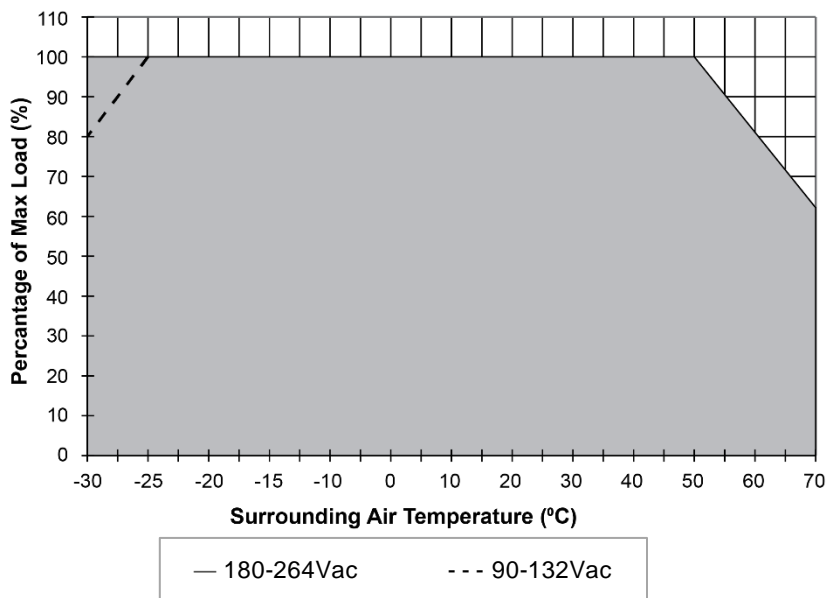
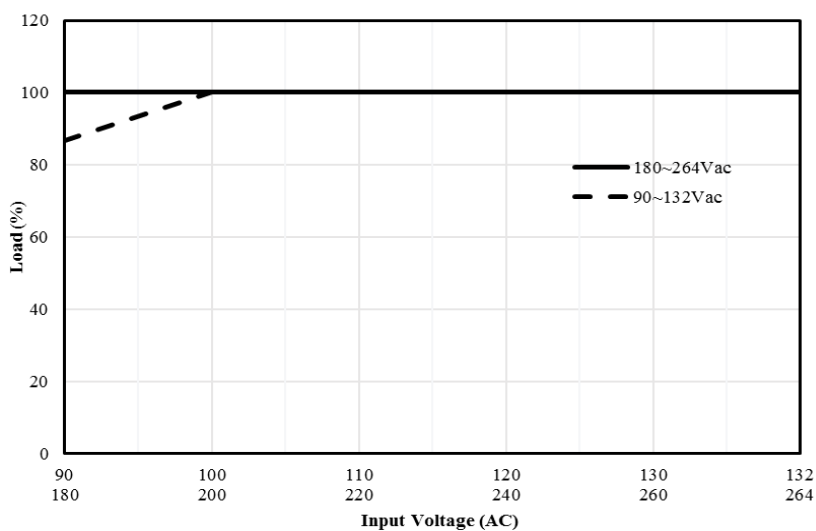

Fig. 1 De-rating for Horizontal Mounting Orientation
Fig. 2 De-rating for AC Input Voltage
1. Power supply components may degrade, or be damaged, when the power supply is continuously used outside the shaded region, refer to the graph shown in Fig. 1 & Fig.2.